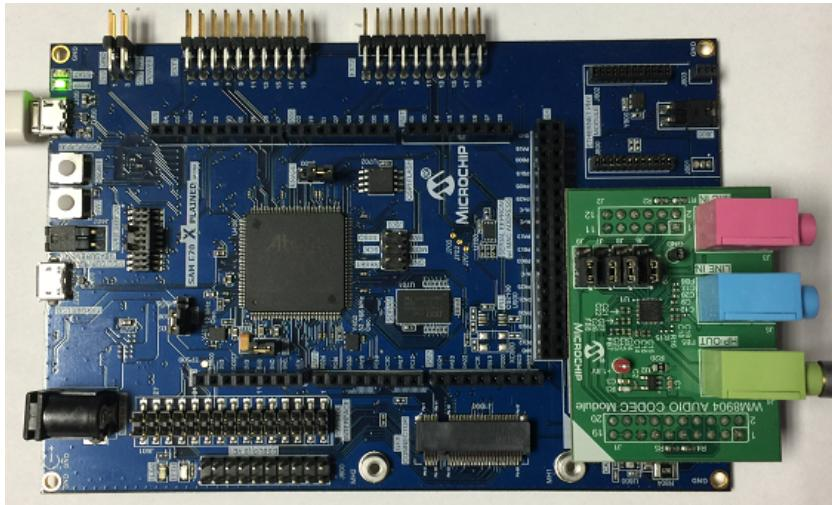

Figure 1: WM8904 Audio Codec Daughter Board on SAM E70 Xplained Ultra board
1. Connect headphones to the HP OUT jack of the WM8904 Audio Codec Daughter Board (see **Figure 1**).